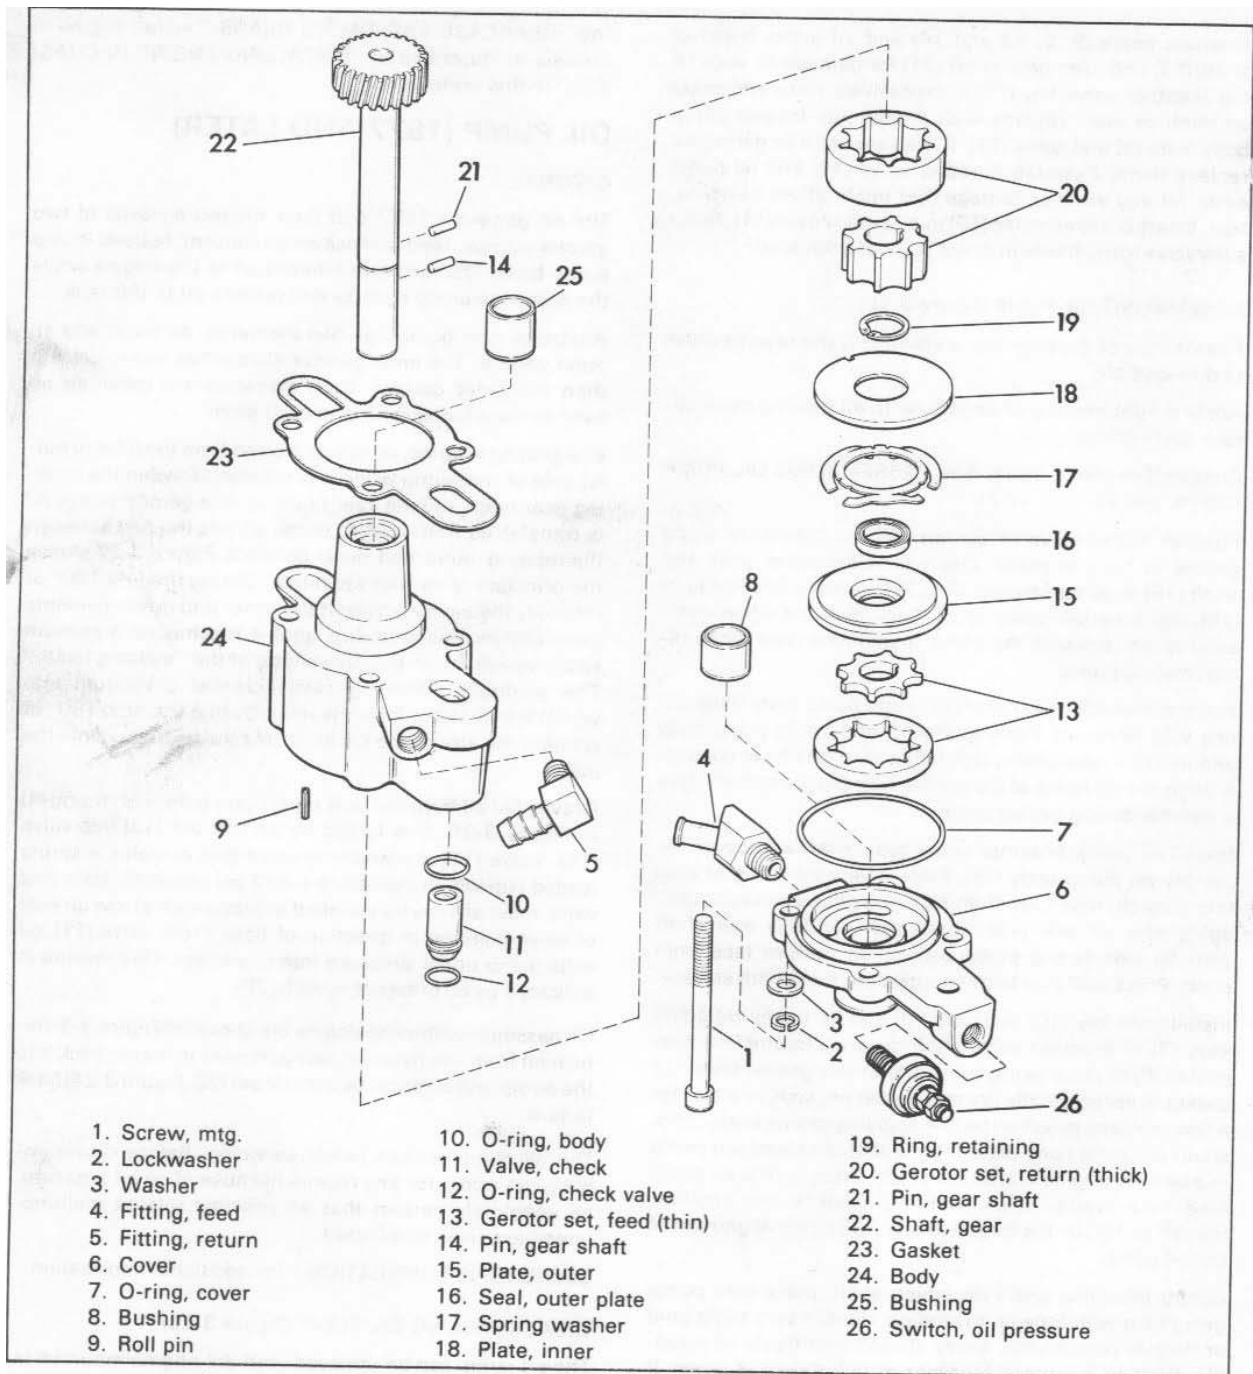

Figure 3-26. Oil Pump - Exploded View (1977 and Later)
Gravity fed oil from the tank enters pump through fitting (4) in Figure 3-26. It is forced by gerotor set (13) into valve (11). Valve (11) is a one-way valve that contains a spring loaded cup which maintains 1-1/2 psi pressure. Note that valve must always be installed in pump with arrow on side of valve pointing in direction of flow. From valve (11), oil exits pump under pressure into crankcase. Oil pressure is indicated by oil pressure switch (26).
Oil passages within the engine are shown in Figure 3-3. Return oil from the flywheel compartment is drawn back into the pump and is forced by gerotor set (20, Figure 3-26) back to tank.
DISASSEMBLING OIL PUMP (Figure 3-26)
CLEANING AND INSPECTING (Figure 3-26)
Lightly oil all moving parts prior to assembly (Figure 3-26). Position fingers of spring (17) toward plate (15). Gasket (23) should be coated with a sealer when placed on body (24). Reinstall seal (16) into groove of plate (15) with lip of seal facing the feed section of pump. Tighten screws to 100 in-lbs torque.
PRIMING OIL PUMP (Figure 3-26)